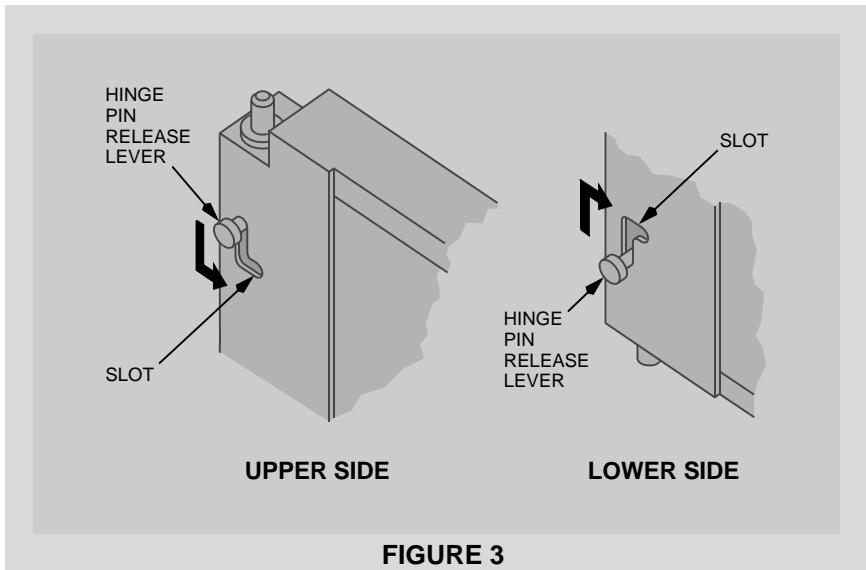

FIGURE 3
- If the door still cannot be opened, both the upper and lower hinge pins can be retracted to remove the entire door assembly from the door support structure (See Figure 3). The canvas handle on the door can be used to assist in door removal